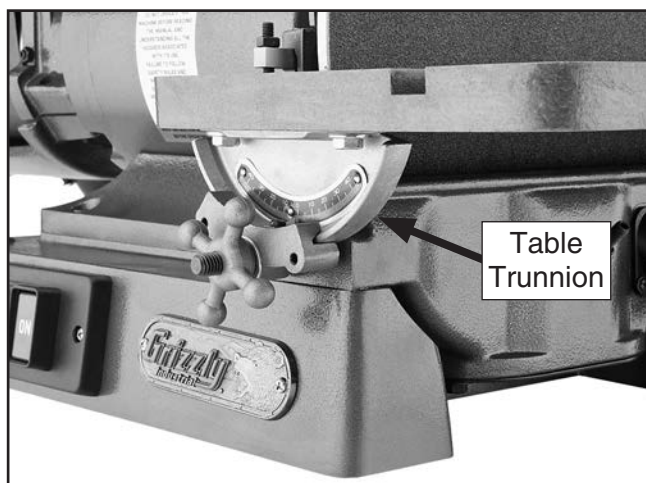

Figure 19. Sanding disc table trunnion secured by the lock knob.
9. Place the sanding disc table trunnions between the bracket and lower disc guard, then tighten the lock knobs to hold the table in place (see **Figure 19**).